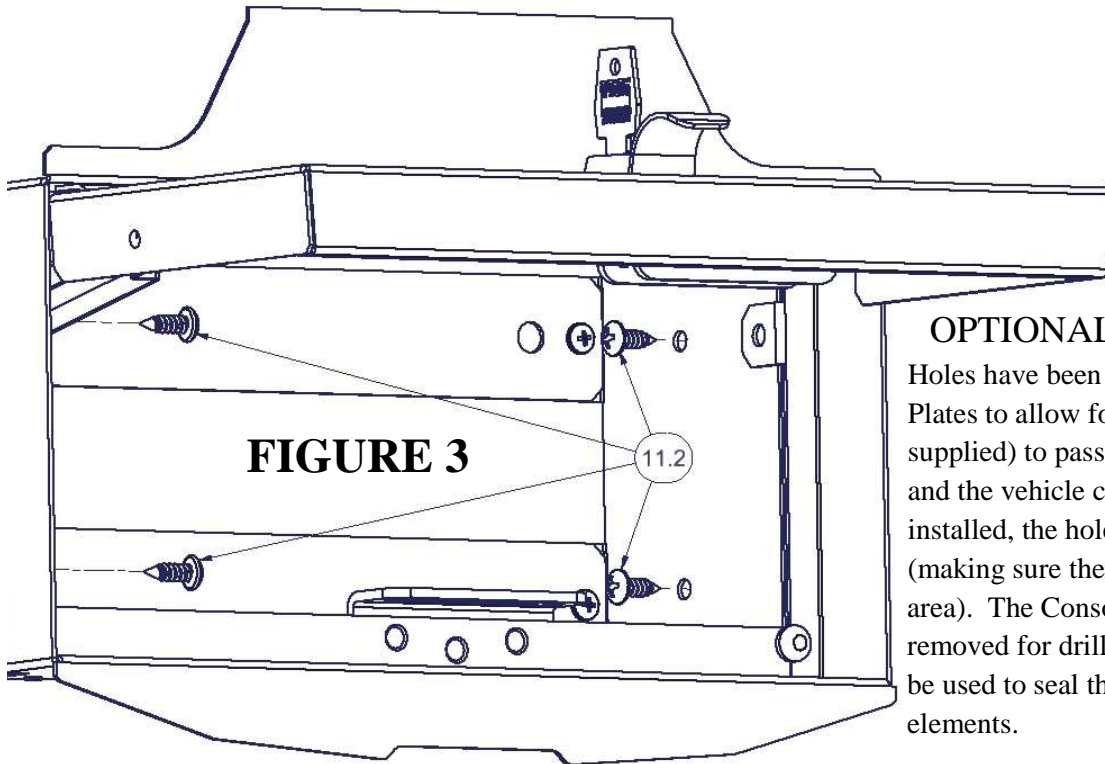

FIGURE 3
- Replace the Console Insert into position and install the (4) #11.2 screws that secure it in place(Figure 3).